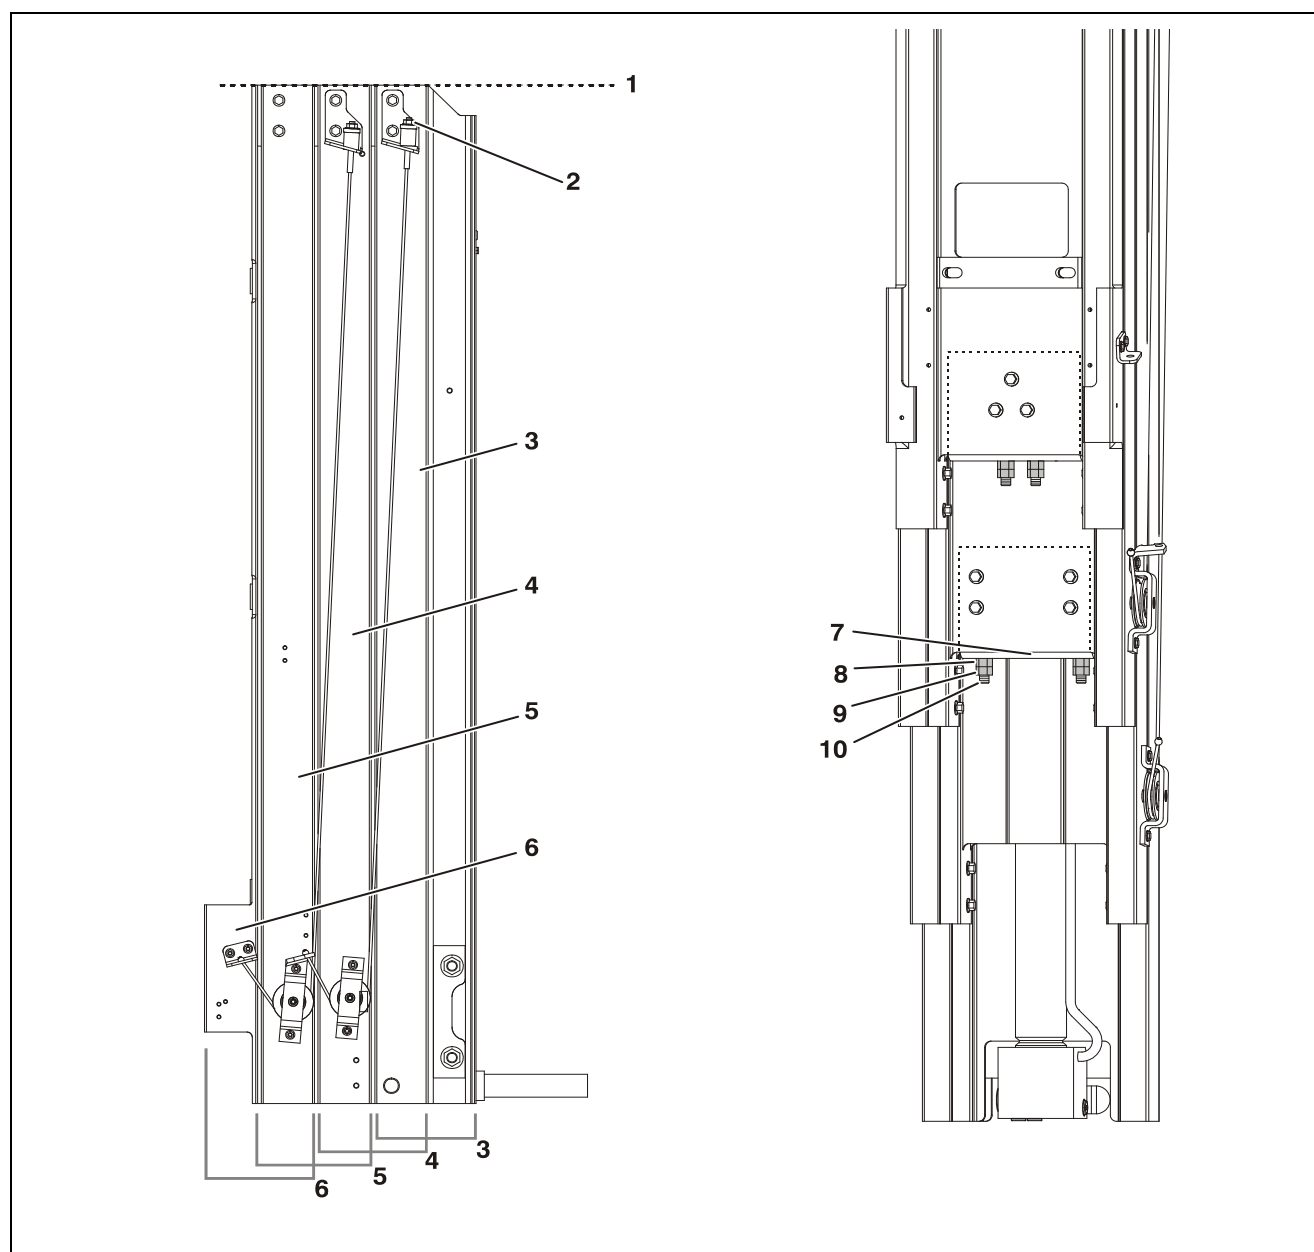

Figure 5-8. Mast Chain and Sequence Cable Adjustment Components.
(See Figure 5-8.)
3. Then with no load in the platform check the side profile of the top of the mast, the mast sections should all be even at the top and not stepped. (See Figure 5-8.)
7. **Tighten** (to raise mast section), or **loosen** (to lower mast section) the **adjusting nut** against the anchor plate on each chain. Adjust the nut the amount required to raise or lower the top of the mast section to match the side profile shown in Figure 5-8. when the mast is retracted.
8. Retract the mast all the way and check if the top of the mast sections appear as shown in Figure 5-8.
9. Repeat steps (1) through (7) for remaining mast sections.